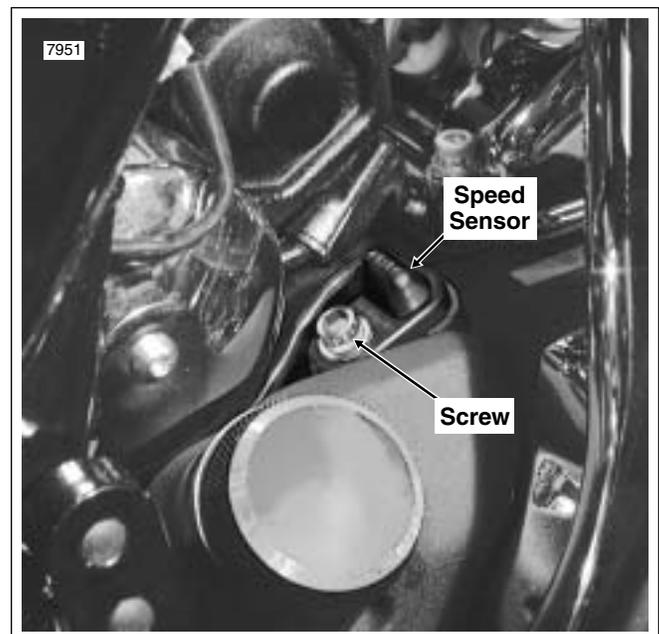

Figure 8-118. VSS Location
8. Locate VSS mounted next to the starter on the right side of the transmission case. Remove screw and pull sensor from transmission case. See Figure 8-118.